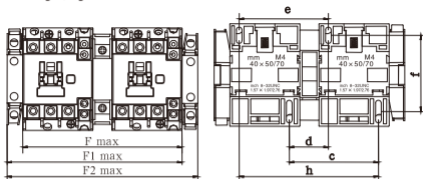
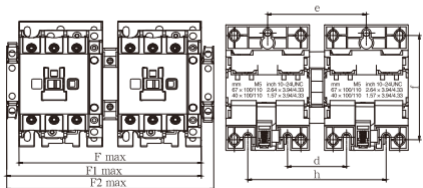

Fig. 6 C/JX2s/C/JX2i-09N~38N
Fig. 7 C/JX2s/C/JX2i-40N~95N
- Reversing AC contactor Overall and Mounting dimension, see Fig. 6, Fig. 7 and Table 3.